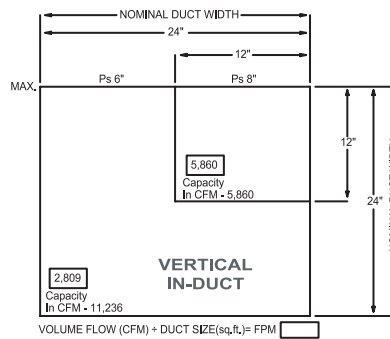

FIGURE 2
A Model 151A 24" x 24" is ordered to be installed in a Vertical In-Duct position (see Figure 2). This unit shall be assembled in (1) 24" x 24" section, which according to the table, is rated for an air volume of 11,236 CFM with an air velocity of 2,809 FPM and a static pressure (Ps) of 6" w.g. Therefore, the 24" x 24" unit will have a maximum air volume of no more than 11,236 CFM with an air velocity of 2,809 FPM and a static pressure (Ps) of 6" w.g.